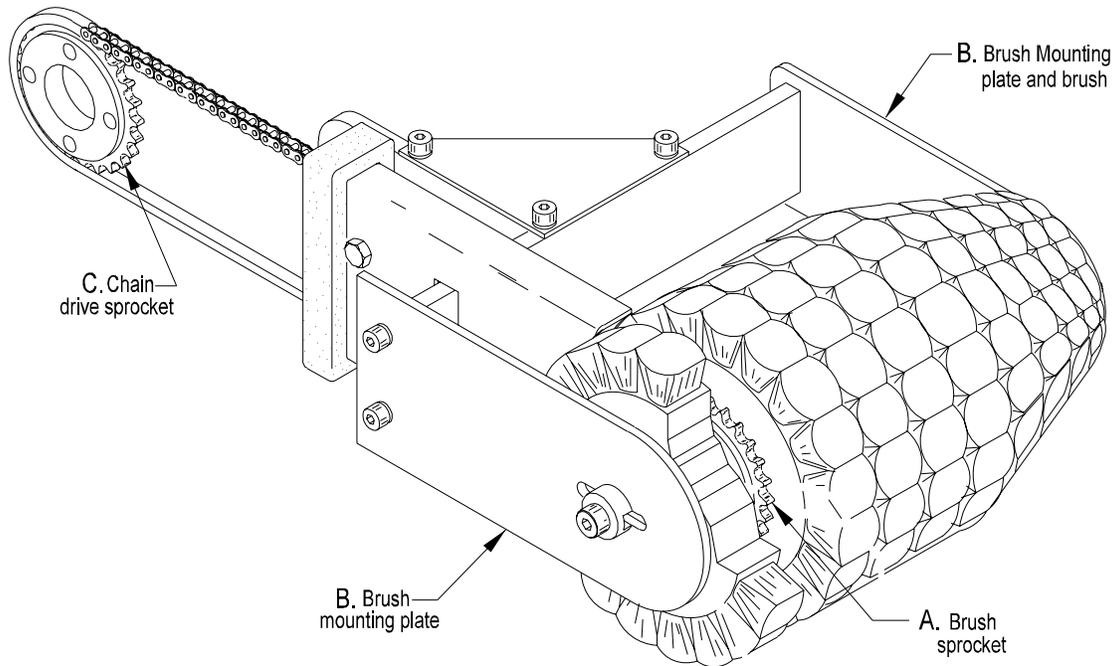

Figure 3.1
2. Keep the two drive chains properly tensioned. Loosen the socket head screws at the discharge end of the brush shaft. Place fingers on the brush assembly as detailed in figure 3.1. Apply
3. Place fingers on the brush assembly as detailed in figure 3.1.